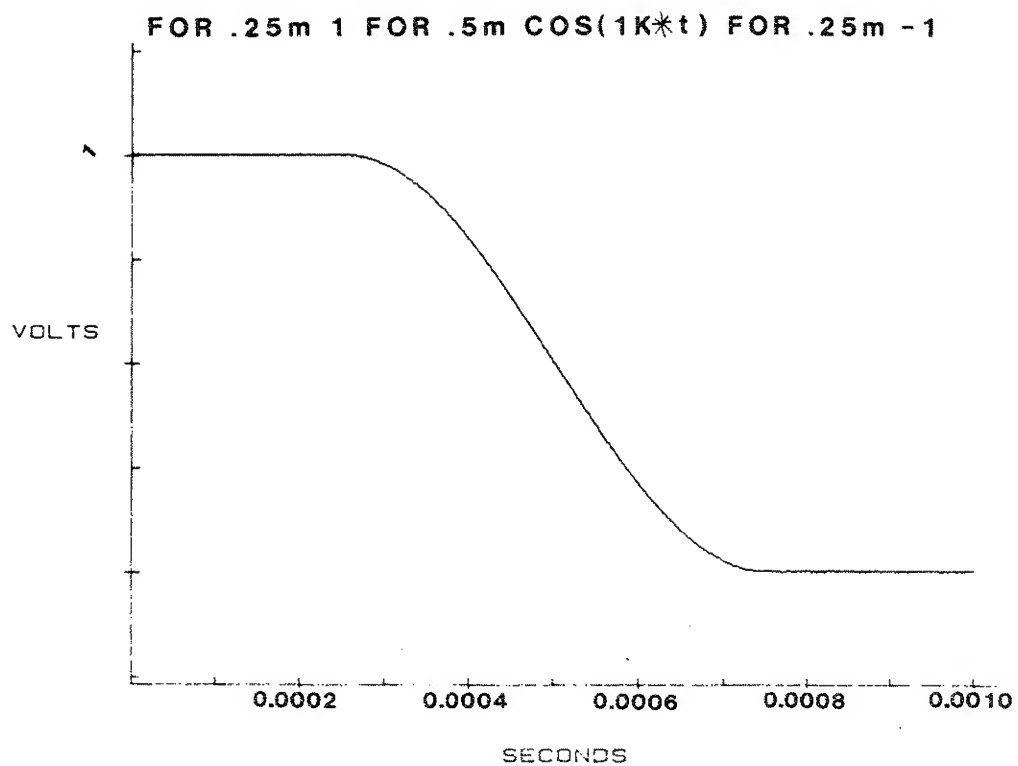
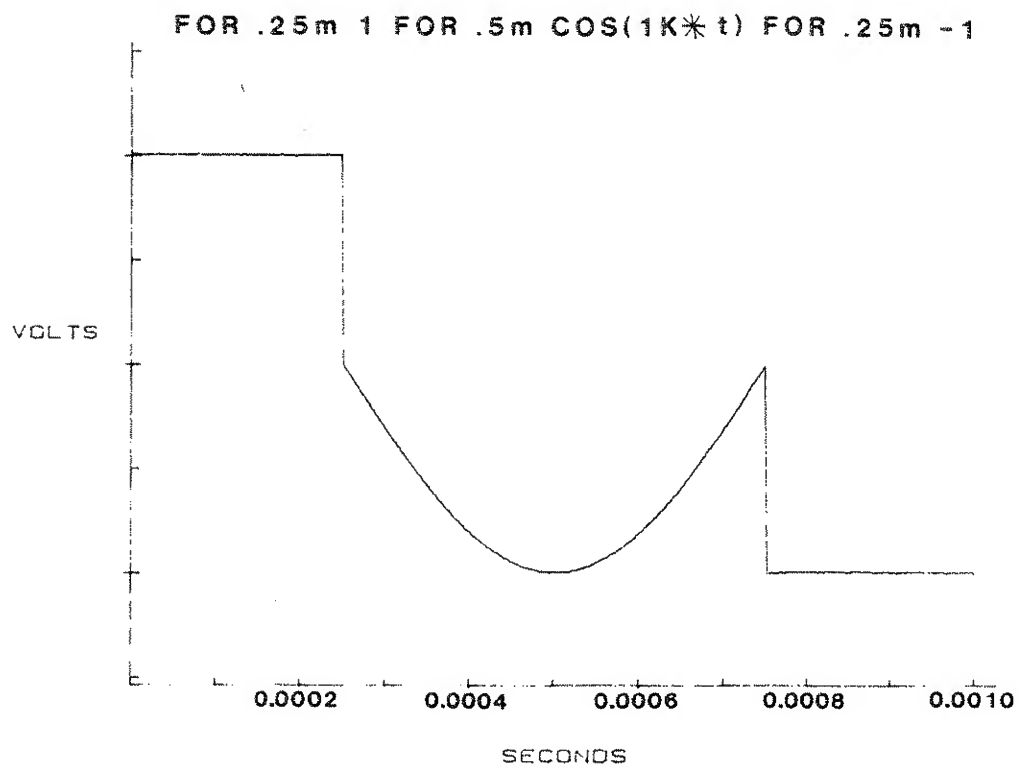

FIGURE 1
FIGURE 2
The “FOR” directive is of the form FOR {Time} {expression}; and it means evaluate the expression for the time duration. Let’s use the FOR directive in a few typical statements. FOR 2.2m SIN(1000 \*T) will generate 2.2 cycles of a 1 kHz waveform (assuming CYC mode) since the specified evaluation time of 2.2 ms (note that seconds are implied) yields 2.2 periods at the specified frequency. FOR 5 1 produces a 1V level for 5 seconds. Note that the second, again, is implied and that the expression in this case is simply the number 1 which is separated from the time argument (5 seconds) by a space. FOR directives can be concatenated; that is, the multiple statement FOR .25m 1 FOR 500 $\mu$  COS(1K\*t) FOR .25m - 1 will produce an output waveform that is +1V for 0.25 ms followed by one half cycle (0.5 ms) at 1 kHz with a peak amplitude of 1V (times 1 is assumed as the coefficient for the trig term) followed by -1V for .25 ms. Since we used Cosine and small t to express time the trig term started at 90 degrees and since its run time was 1/2 a cycle it ended at 270 degrees. The use of small or large T to express the variable (time) will be discussed below. It is imperative that a space be left in front of each successive FOR statement to delineate it from the previous one as shown in the foregoing example. Try this multiple FOR statement for drill. The result should be as shown in Figure 1.
(T) Variable Vs (t) Variable: “2020” expressions can contain either no variables or the variable time. The variable time has two notation methods (T or t). Large “T” is the cumulative time from the beginning of the expression (starts coincident with the sync out pulse) to the end of the expression (start of the next sync pulse or the end of the waveform depending on trigger mode). Small “t” is also cumulative but it resets to zero when first encountered and adds to large “T”. Each time that a new FOR statement is encountered small “t” begins at zero but large “T” is continuous and non-resettable. There are further considerations to the relation of “T” and “t” that will be elaborated upon in the REPEAT (RPT) directive discussion which follows, in this Section. Figures 1 & 2 illustrate the effect obtained relative to the use of large “T” or small “t” with both expressions being otherwise identical. In figure 1, we used small “t” so that when the second FOR directive was encountered the first data point was taken as Cosine of zero degrees, or +1V, which corresponded to the value of the last data point in the first FOR directive, also 1V. Whereas, in Figure 2 we used large “T” so that when the second FOR directive was started “T” was at a value of 0.25 ms (1/4 cycle at 1 kHz) and the first data point in the second FOR section was Cosine 90 degrees, or 0V.